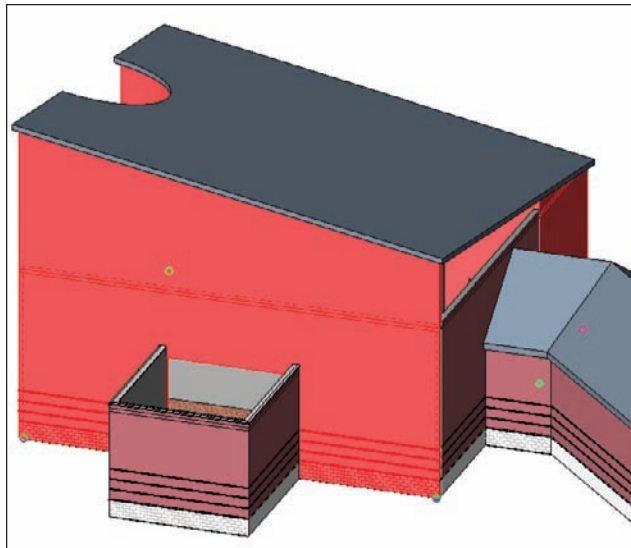

FIGURE 7.45 Attaching the tops of the walls to the sloping roof
1. In the 3D view, select all of the exterior west wing walls, excluding the one on the east side that is west of the corridor (you can see it in Figure 7.45).
4. Pick the sloping roof (see Figure 7.45).